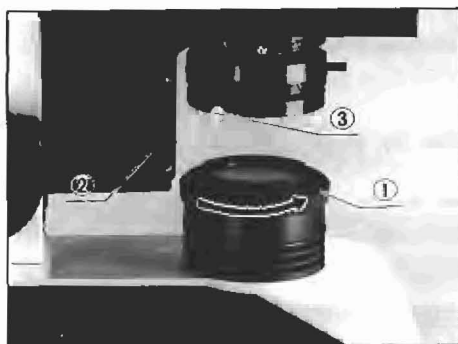

Fig. 19
- 1) Rotate the diaphragm ring (1) counterclockwise to stop down the iris diaphragm to the minimum. (Fig. 19)
- 2) Rotate the condenser height adjustment knob (2) in either direction until the image of the field diaphragm is visible sharply in the field of view. (Fig. 19)
- 3) Bring the image of the field diaphragm into the center of the field by means of the two attachment lens centering screws (3). (Figs. 19, 20)
- 2) Turning the field diaphragm ring (①) (Fig. 19) counterclockwise reduces the diaphragm opening, or reverse the ring to increase the opening.